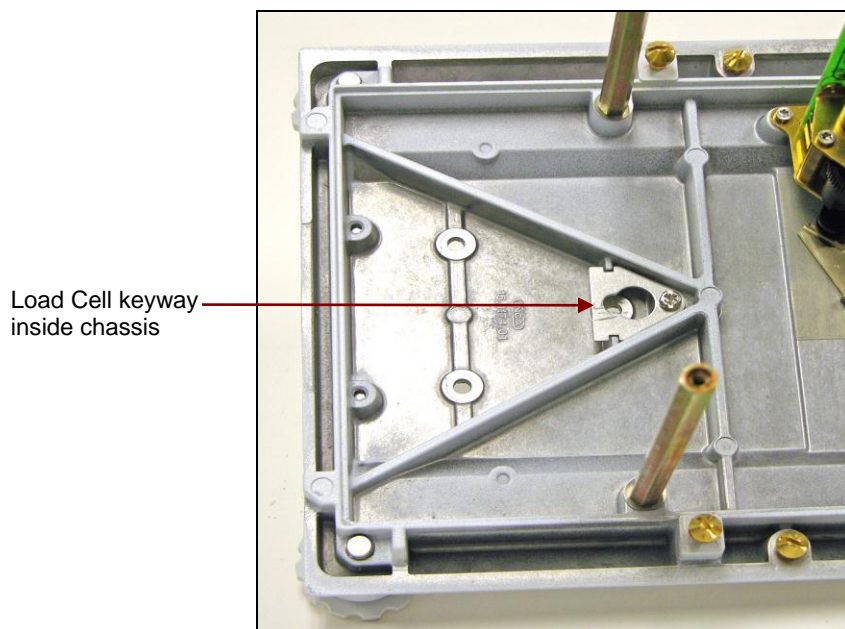

Figure 3-29. Load Cell chassis.
13. Remove the Load Cell, jostling it away from keyway, which faces towards the front of the balance. (See Figure 3-29.)